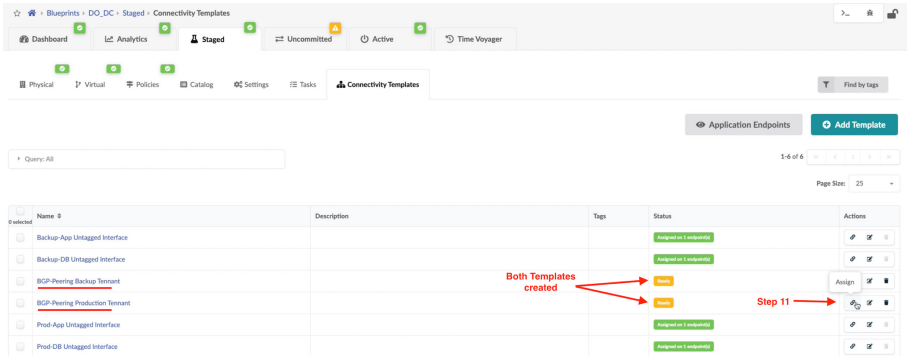

Figure 6.16 Assigning a Connectivity Template for BGP Dynamic Routing
Step 11: In the Connectivity Templates tab, click on the Assign button corresponding to the Production tenant. See Figure 6.16.